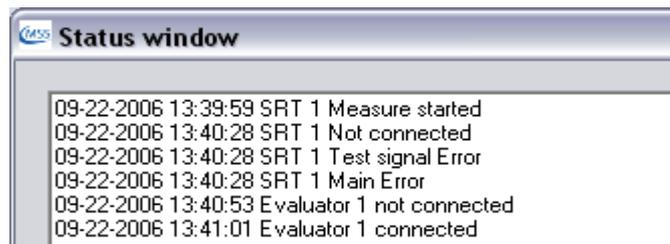

Fig 5.2. Example of messages displayed in the event window / status window
- If the connection is established, this is confirmed by a “Connected” message in the event window. (Fig. 5.2)
The error messages displayed in PCN09 Logger are self-explaining, i.e. a communication problem with the GDMS-PCN09 Evaluator is depicted in Fig. 5.2. below.